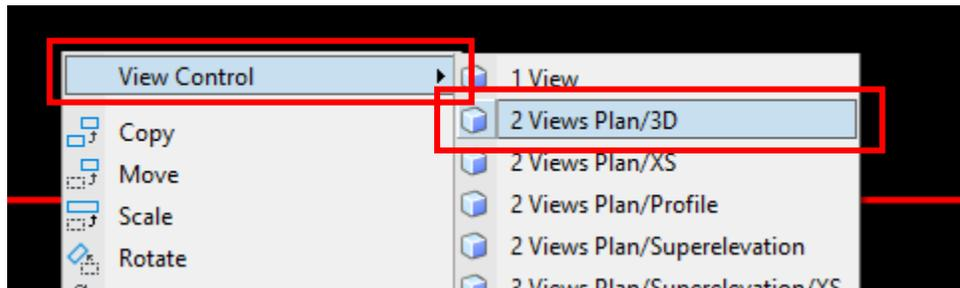

Figure 2-17: View Plan/3D
- B. In the **View 1, Default** window, right click and hold and select **Views Plan/3D** as shown previously in Figure 2-17: View Plan/3D.
- L. Set the View Control to **Plan/3D** as previously shown in Figure 2-17: View Plan/3D.